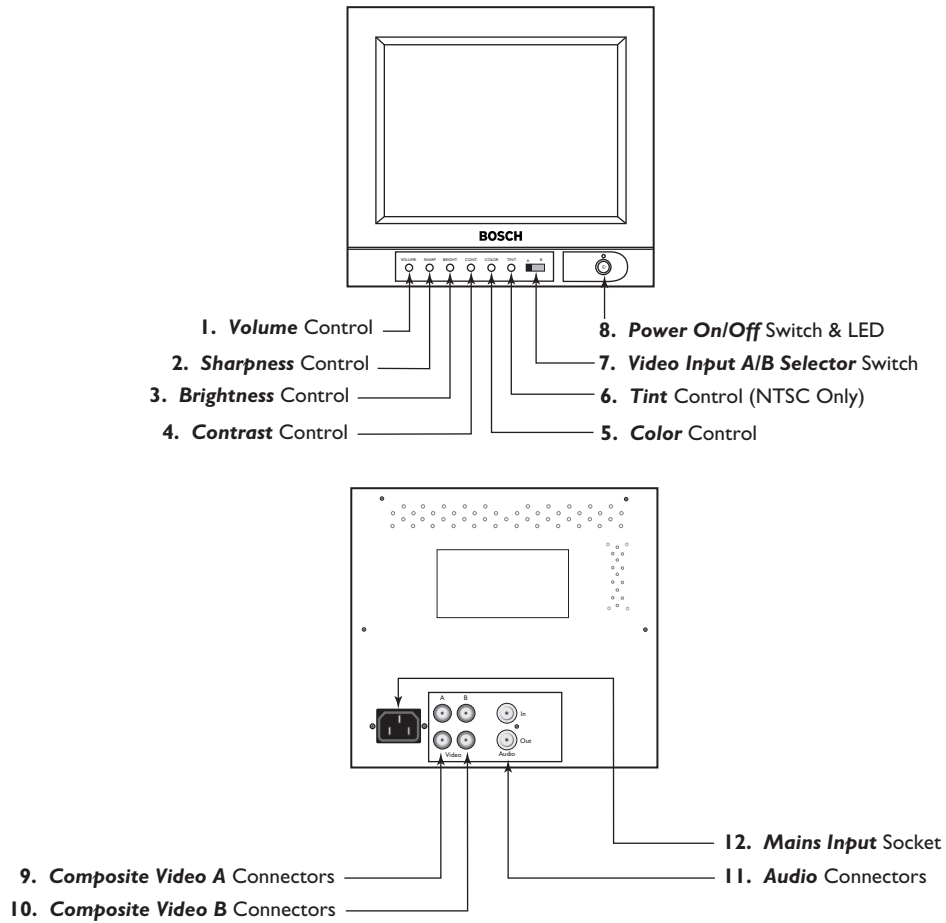

Figure 1: Monitor Model LTC 2910/90 – Front and Rear View
The LTC 2910/90 monitor is delivered with a 3-pole 120 VAC, 60 Hz US style power cord and a 3-pole 230 VAC, 50 Hz European style power cord. The monitor end of the power cord plugs into mains input socket (FIGURE 1, Item 12) on the rear panel. The monitor automatically adjusts to the power input voltage set. A power on/off switch is located on the front of the unit (FIGURE 1, Item 8).
The four (4) BNC connectors (FIGURE 1, Items 9 & 10) located on the rear of the monitor, are for composite video inputs and outputs.
There is one set of monaural audio connectors (FIGURE 1, Item 11); one for audio input, the other for a loop-through output to another device.
5.1 Front Panel Controls (FIGURE 1, Top)
- **Power On/Off Switch & LED** (FIGURE 1, Item 8): This switch is located on the front panel, at the bottom right. Press the switch to turn the monitor on. The green LED will illuminate. Press the switch again to turn the monitor off.
- **Volume Control** (FIGURE 1, Item 1): Adjusts volume for the appropriate audio level.
- **Sharpness Control** (FIGURE 1, Item 2): Adjusts sharpness for the desired overall picture quality. Turn clockwise to increase picture sharpness, and counterclockwise to decrease picture sharpness.
- **Brightness Control** (FIGURE 1, Item 3): Adjusts brightness for the desired overall picture or display quality. Turn clockwise to increase brightness level, and counterclockwise to decrease brightness level.
- **Contrast Control** (FIGURE 1, Item 4): Adjusts contrast for the desired overall picture quality. Turn clockwise to increase picture contrast, and counterclockwise to decrease picture contrast.
- **Color Control** (FIGURE 1, Item 5): Adjusts the overall color intensity of the screen display. Turn clockwise to increase color intensity, and counterclockwise to decrease color intensity.
- **Tint Control** (FIGURE 1, Item 6): Adjusts the color level. For best results, adjust until skin color appears natural. Turn clockwise to adjust the skin tone towards green, and counterclockwise to adjust towards red.
- **Video Input A/B Selector Switch** (FIGURE 1, Item 7): Set the switch to A (video input A) for the monitor to display the composite video A signal. Set the switch to B (video input B) for the monitor to display composite video B signal.
| <p>Power On, No Display: (1) No video signal connected; (2) Video cable is disconnected.</p> | (1) Verify that the Video Input A/B Selector switch (FIGURE 1, Item 7) is in the correct position; (2) Check video cable for proper connection and correct accordingly. |
| <p>Power On, No Sound: (1) Incorrect cable connection configuration; (2) Audio cable is disconnected; (3) Volume output is set too low.</p> | (1) Ensure that the cable connection configuration is correct (see SECTION 4.4); (2) Connect the audio cable firmly; (3) Adjust the speaker volume via the Volume control on the front panel (FIGURE 1, Item 1). |